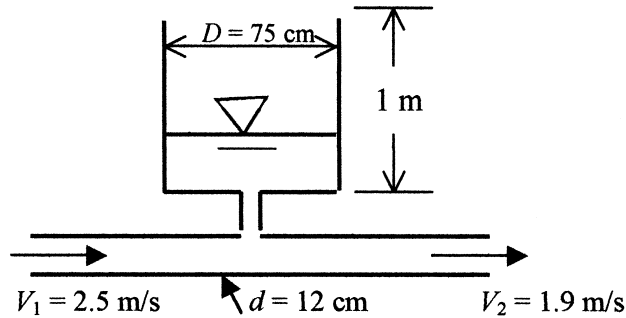

Fig. P3.12
3.12 The pipe flow in Fig. P3.12 fills a cylindrical tank as shown. At time $t = 0$, the water depth in the tank is 30 cm. Estimate the time required to fill the remainder of the tank.